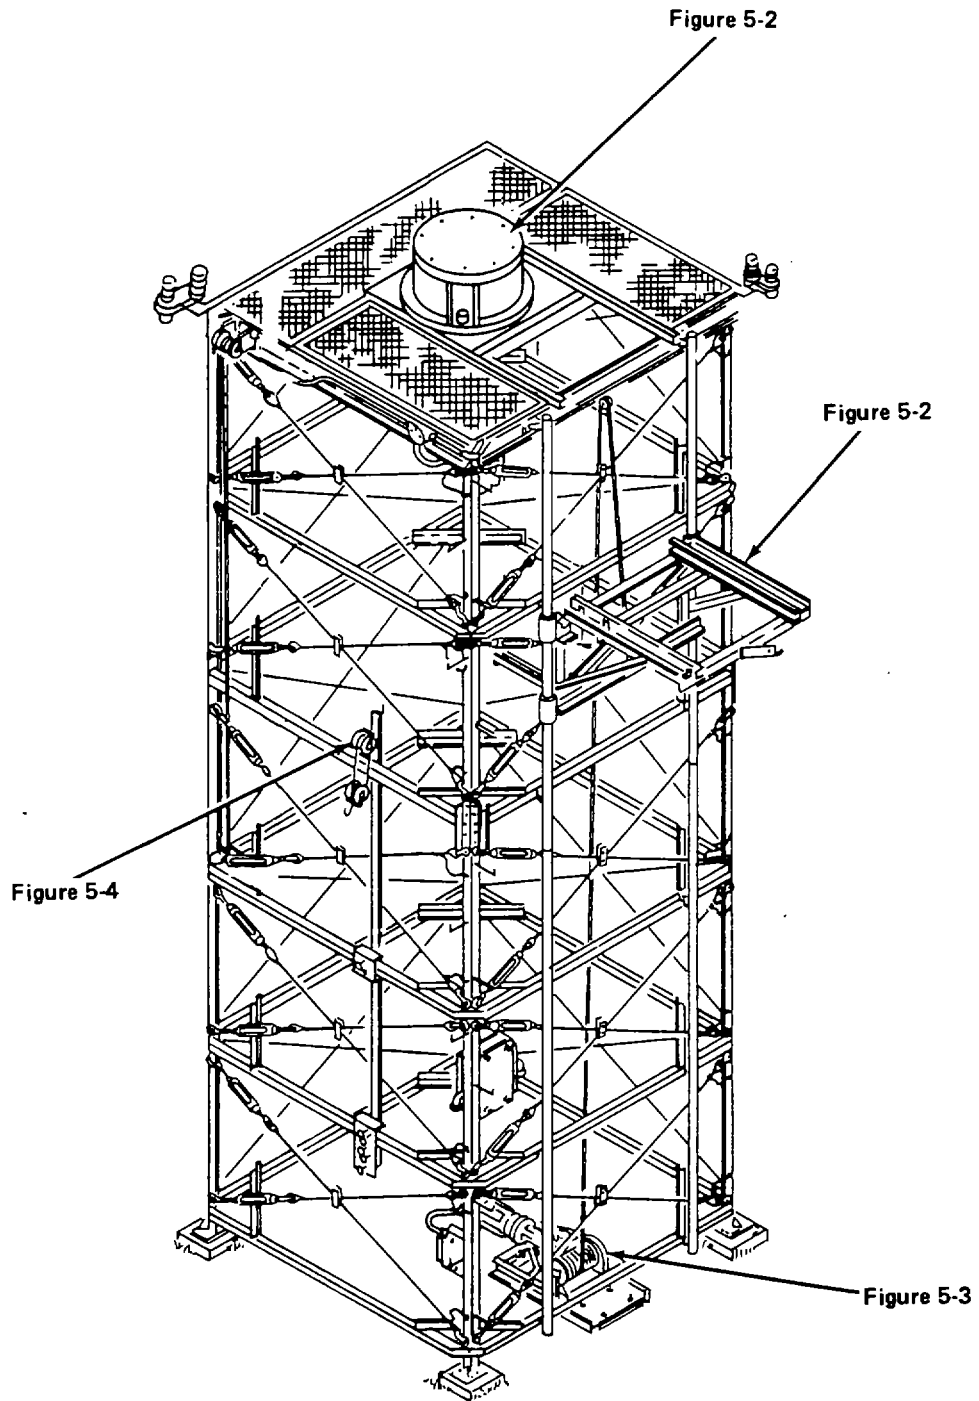

Figure 5-1. TS-9A Antenna Tower Lubrication
**5-4 GENERAL.** Keep all lubricants in closed containers and store in a clean, dry and cool area. Do not allow dust, dirt, or other foreign material to mix with oils and grease. Keep all equipment clean and ready to use. Keep all external parts that do not require lubrication free of lubricants. Before application, wipe all lubrication points free of dirt and grease. Clean all lubrication points after application to prevent accumulation of foreign matter. Service the lubrication points at proper intervals, as illustrated in figures 5-1 through 5-5 and in accordance with the special instructions contained in paragraph 5-5.